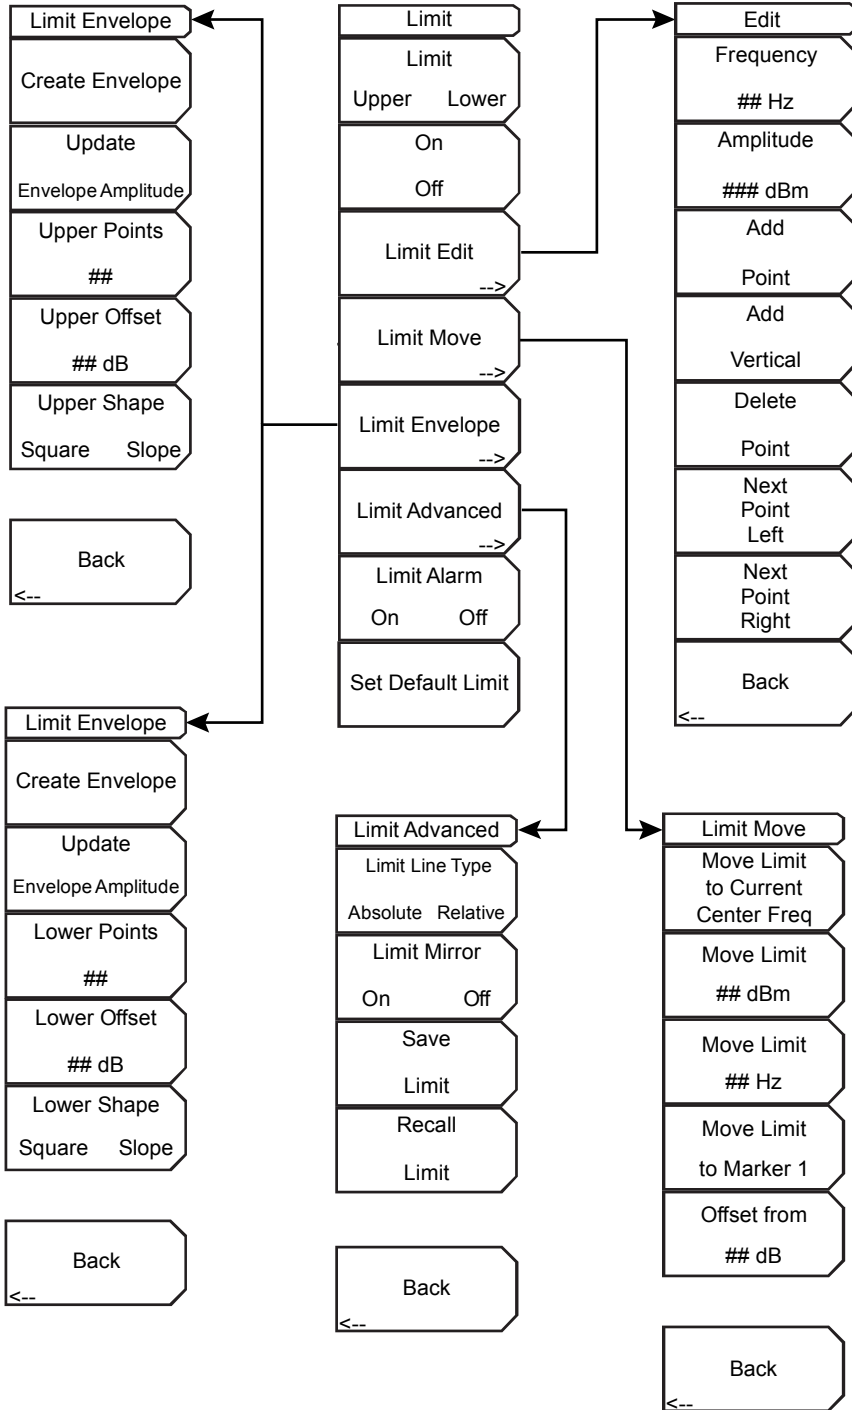

Figure 3-13. Limit Menu
To access the functions under the Limit menu, press the **Shift** key, then the **Limit** (6) key. The Limit menu soft keys are shown in Figure 3-13.